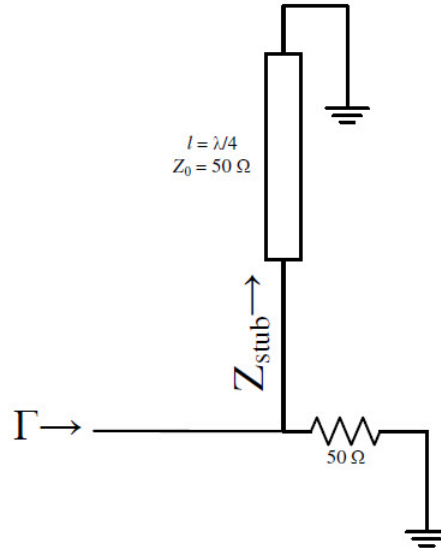

Figure 3: Example Student Unknown
This lab will also be the first time you will be using the student unknown. Each student unknown is a 50-ohm termination connected in parallel to a shorted stub of a different length (see Figure 3). Use this knowledge to determine if the measurements you take in this lab make sense.
1. An unknown load is made up of a 50 ohm termination in parallel with a quarter-wavelength shorted stub at frequency f_0 as pictured in Figure 3. This structure is the same as the student unknown. What is Z_{stub} ? What is Γ assuming the source impedance is 50 ohms? Calculate the return loss? You should be able to answer these questions without the use of a calculator.
2. Using the same structure as in Figure 3, assume that we double our operating frequency (i.e. $2f_0$). What is Z_{stub} ? What is Γ assuming the source impedance is 50 ohms? Calculate the return loss? You should also be able to answer these questions without the use of a calculator.